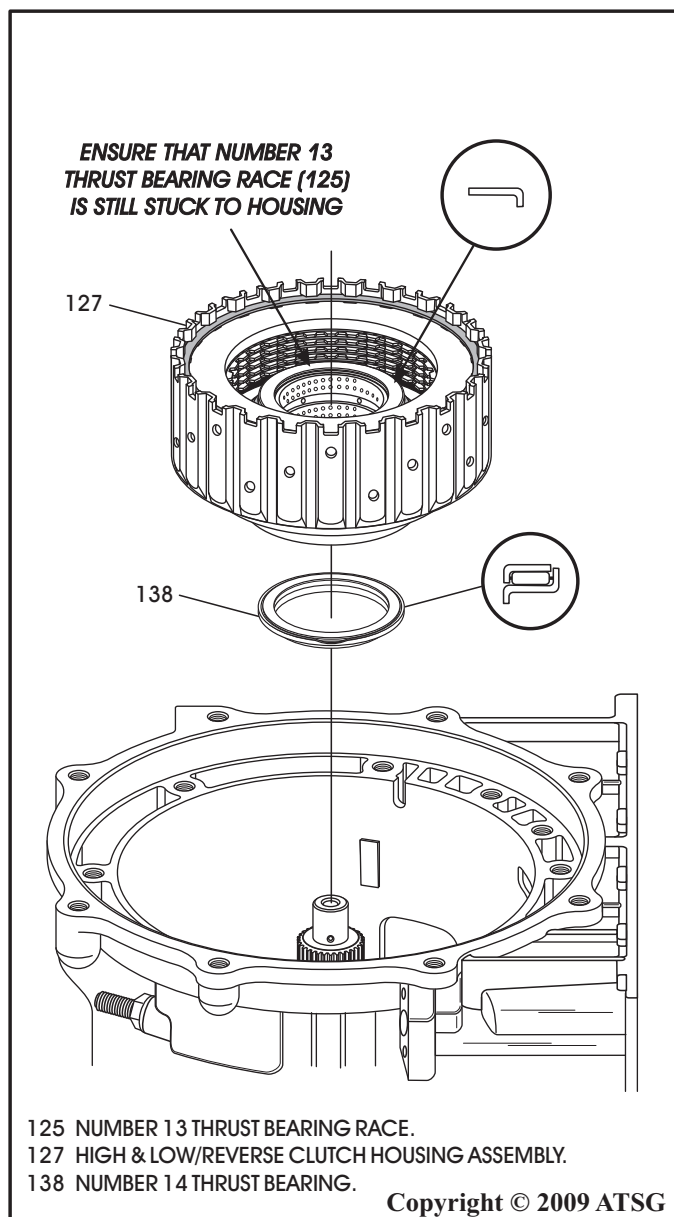

Figure 216
54. Ensure that number 13 thrust bearing race is still stuck to the high and low/reverse clutch housing, as shown in Figure 216.
56. Install the pre-assembled high and low/reverse clutch housing into direct clutches, as shown in Figure 216, by rotating back and forth until fully seated.